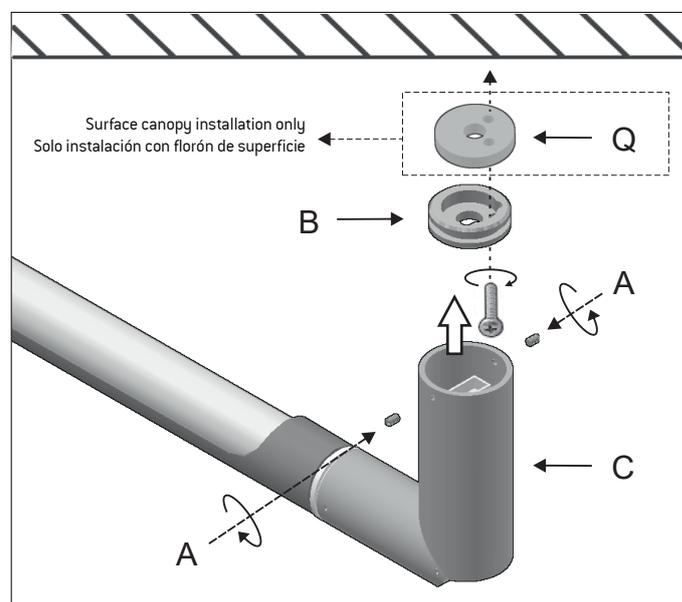

Figure 7
Attach the mounting bracket (B) to the wall. Then, attach the fixture body to the mounting bracket (B) using the studs (A) removed in step 1. Figure 7.
Attach the union part (Q) and the mounting bracket (B) to the wall. Then, attach the fixture body to the mounting bracket (B) using the studs (A) removed in step 1. Figure 7.